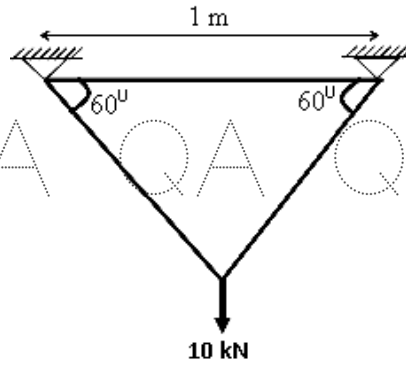

Figure 6
8. Analyse the pin-jointed plane frame supported and loaded as shown in Figure 6. Use flexibility method. [10]